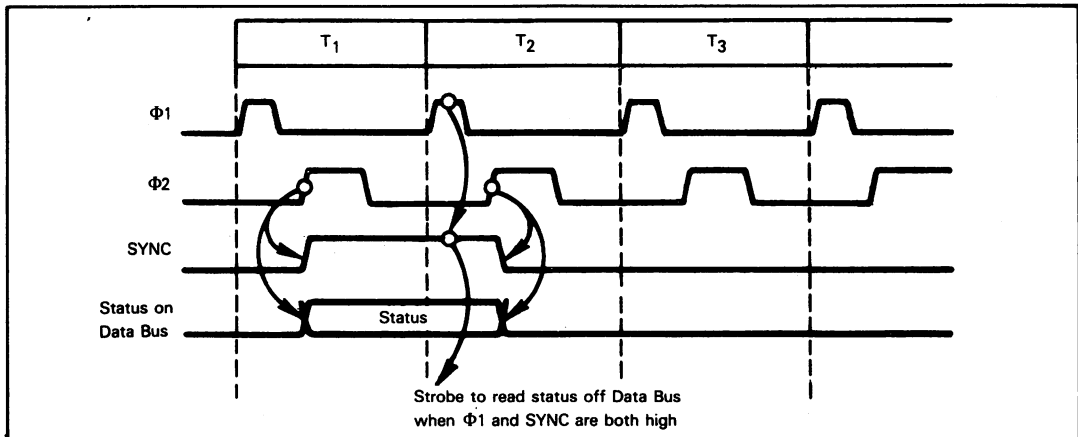

Figure 4-4. Status Output During T2 of Every Machine Cycle
**The CPU identifies the operations that will occur during every machine cycle by outputting status information on the Data Bus during clock period T2.** External logic uses SYNC and the  $\Phi 1$  pulse at the start of T2 to read status off the Data Bus. Timing is illustrated in Figure 4-4.